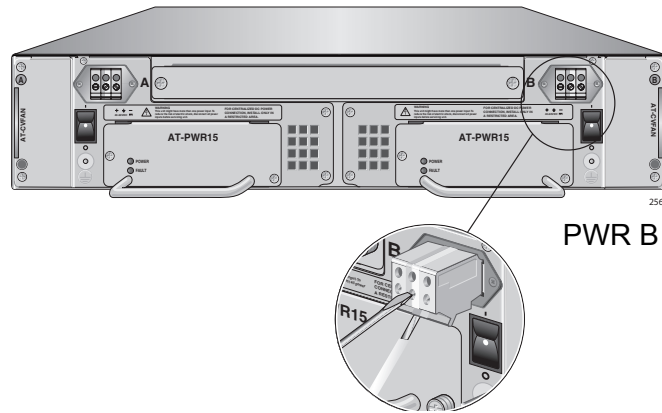

Figure 43. Inserting Wires into a DC Terminal Block
5. Connect the power supply ground wire into the middle of the three terminals; this is the terminal marked with the ground symbol. Inserting the wire into the terminal and tightening the connection with a flathead screwdriver, as shown in Figure 43.